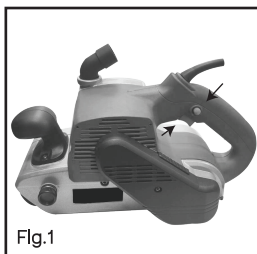

Fig.1
1. ON/OFF SWITCH (See Fig. 1)
2. SWITCH LOCK-ON BUTTON (See Fig. 1)